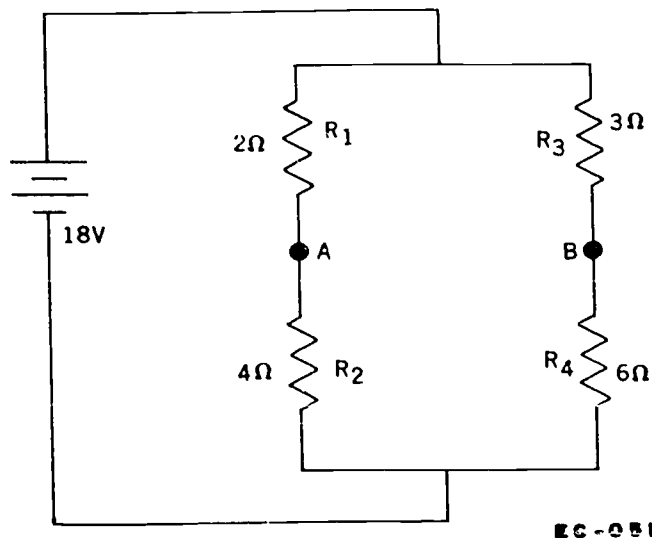
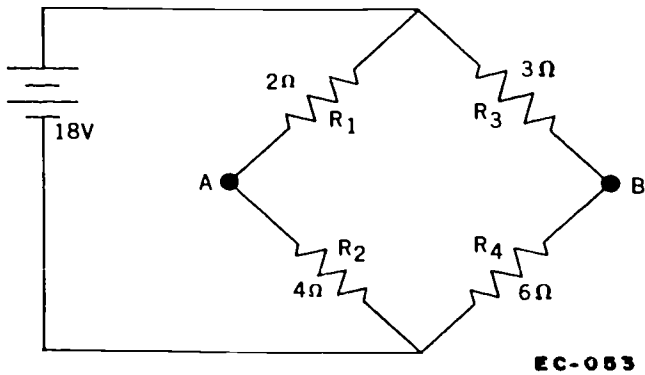

Figure 4-7. Series-parallel bridge circuit.
Figure 4-8. Basic bridge circuit.
033. Using figures 4-7 through 4-9, solve problems for typical balanced resistive bridge circuits.
Balanced Bridge Circuit. In figure 4-7 you can see a parallel circuit consisting of two branches, each having two series connected resistors. Current flows in each branch and the two currents join to return to the battery. Near the center of each branch are two terminals, identified as A and B. Figure 4-8 is the same circuit as figure 4-7, but the illustration is drawn to form the characteristic diamond shape of a bridge circuit. For the bridge to be complete, however, there must be a load of some kind connected between terminals A and B. This may be a resistor, coil, or any one of numerous electrical devices. In most test equipment, it is normal for the device in this position to be a galvanometer. The galvanometer shows the current that is flowing when the bridge is unbalanced.
Return to figure 4-8 and picture R_1 as having 3 amperes and R_3 as having 2 amperes. Again, we have two factors for each resistor. Thus, we can get the voltage at those resistors by using Ohm's law. R_1 has a voltage drop of 6 volts and R_3 has a voltage drop of 6 volts. The same procedures are used to get the voltage at resistors R_2 and R_4 .
- Using the resistance values $R_1 = 100 \text{ ohms}$, $R_2 = 50 \text{ ohms}$, $R_3 = 150 \text{ ohms}$, and $R_4 = 75 \text{ ohms}$ for figure 4-8, determine the potential at points A and B.